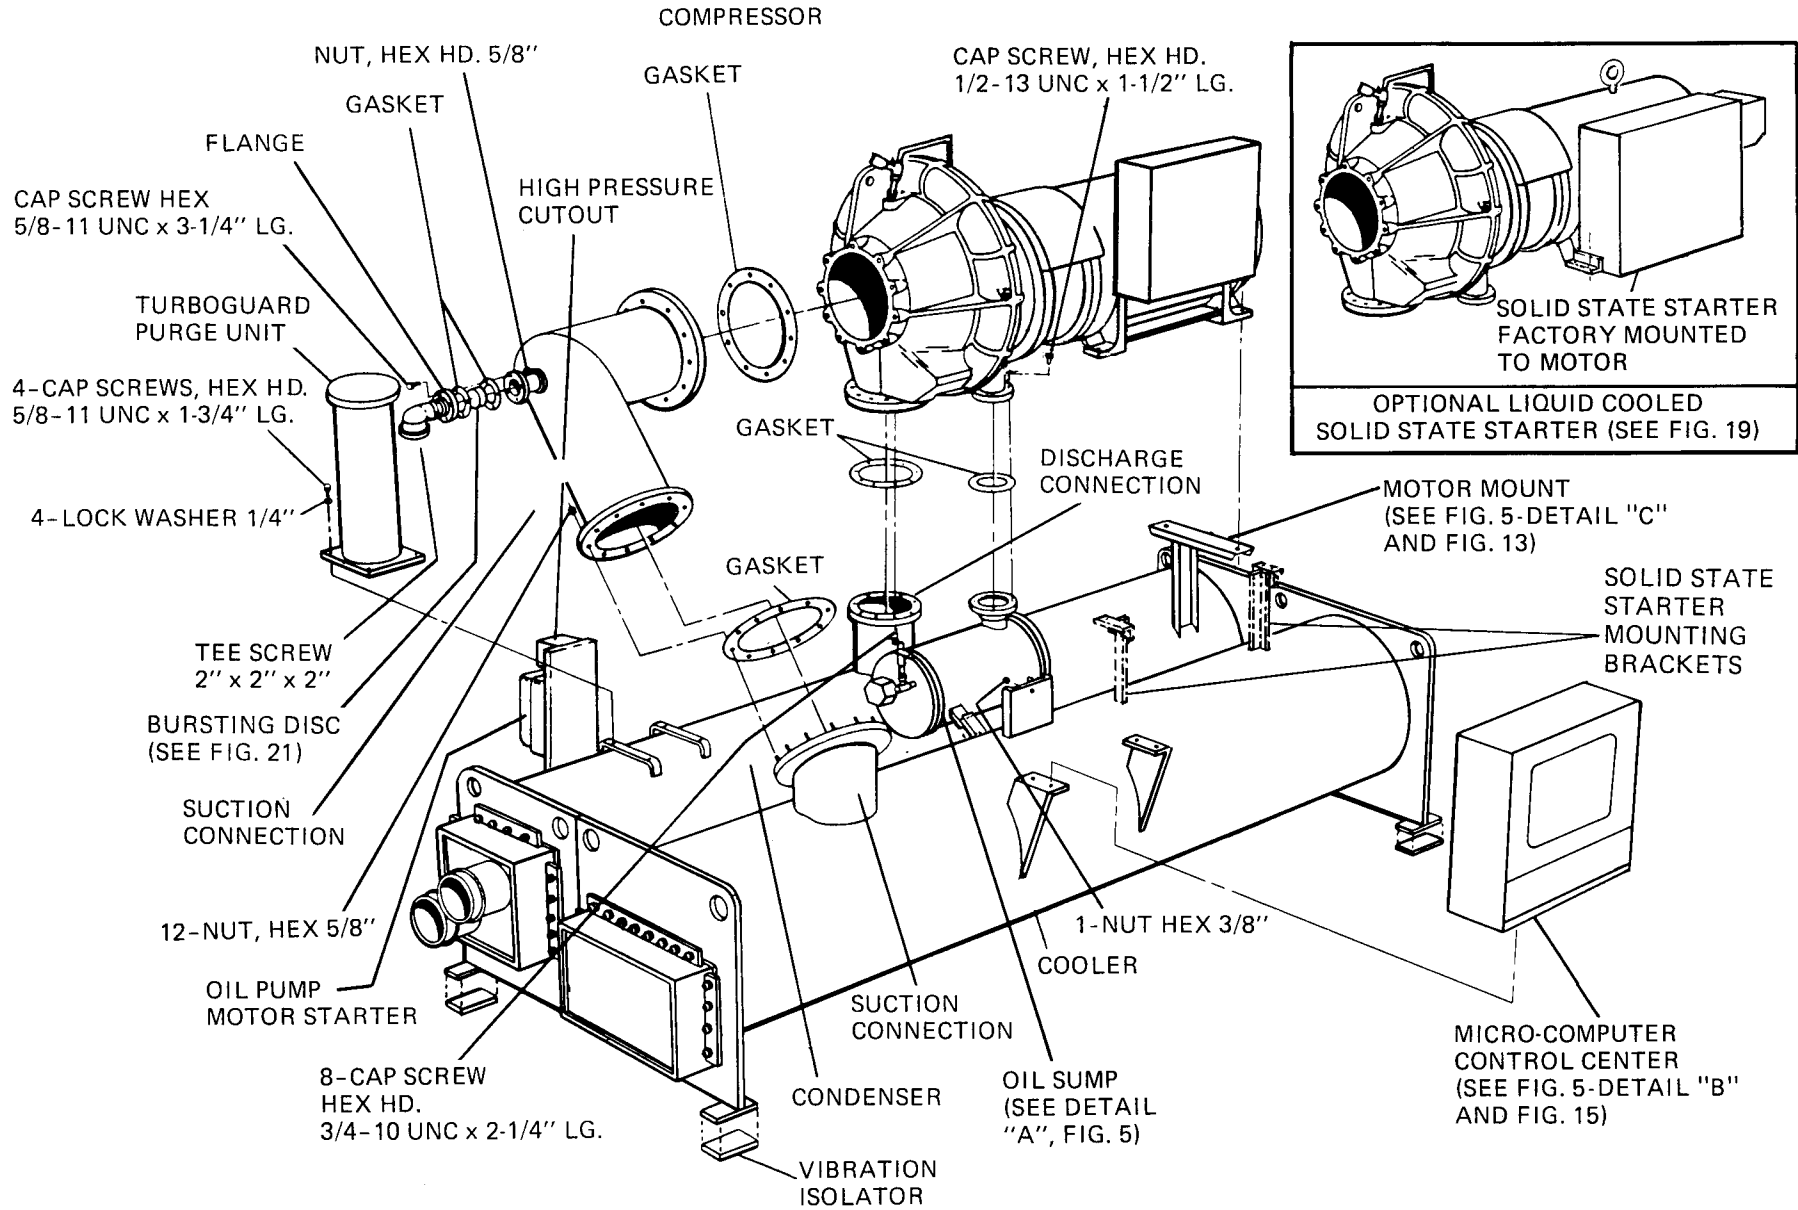

FIG. 4 — MODEL YT CODEPAK EXPLODED VIEW ASSEMBLY (YT A1 A1 B1 THRU F3 S3 C2)
13. Mount purge unit. (See Figs. 4, 9, 10 or 14 & 17.)
14. Assemble the Control Center to unit. (See Figs. 4, 5, 10, 11, 15, 17 or 18.) Also see wiring per drawings furnished by York.